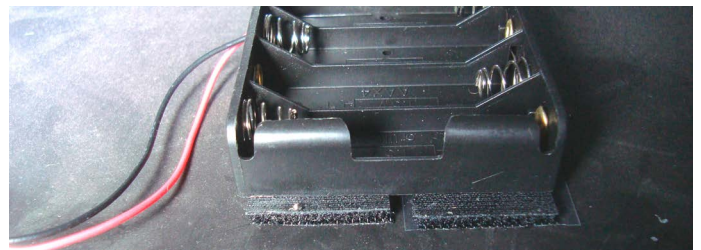

Figure 22 *Battery holder*
1. Secure the battery holder to the fireplace floor using the supplied velcro strips. See Figure 22.